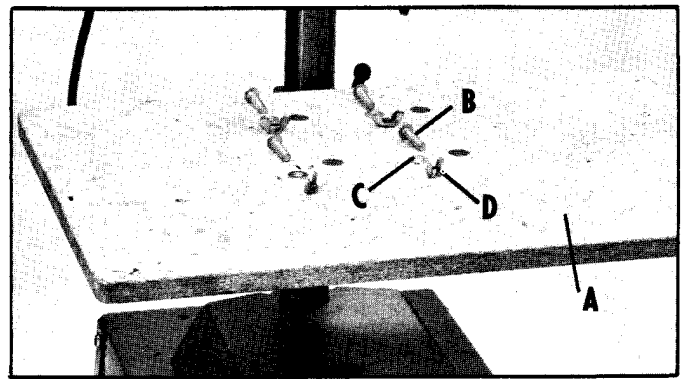

Fig. 11
Assemble the drill press table (A) to the table bracket using the four screws (B), washers (C), and wing nuts (D), as shown in Fig. 11.